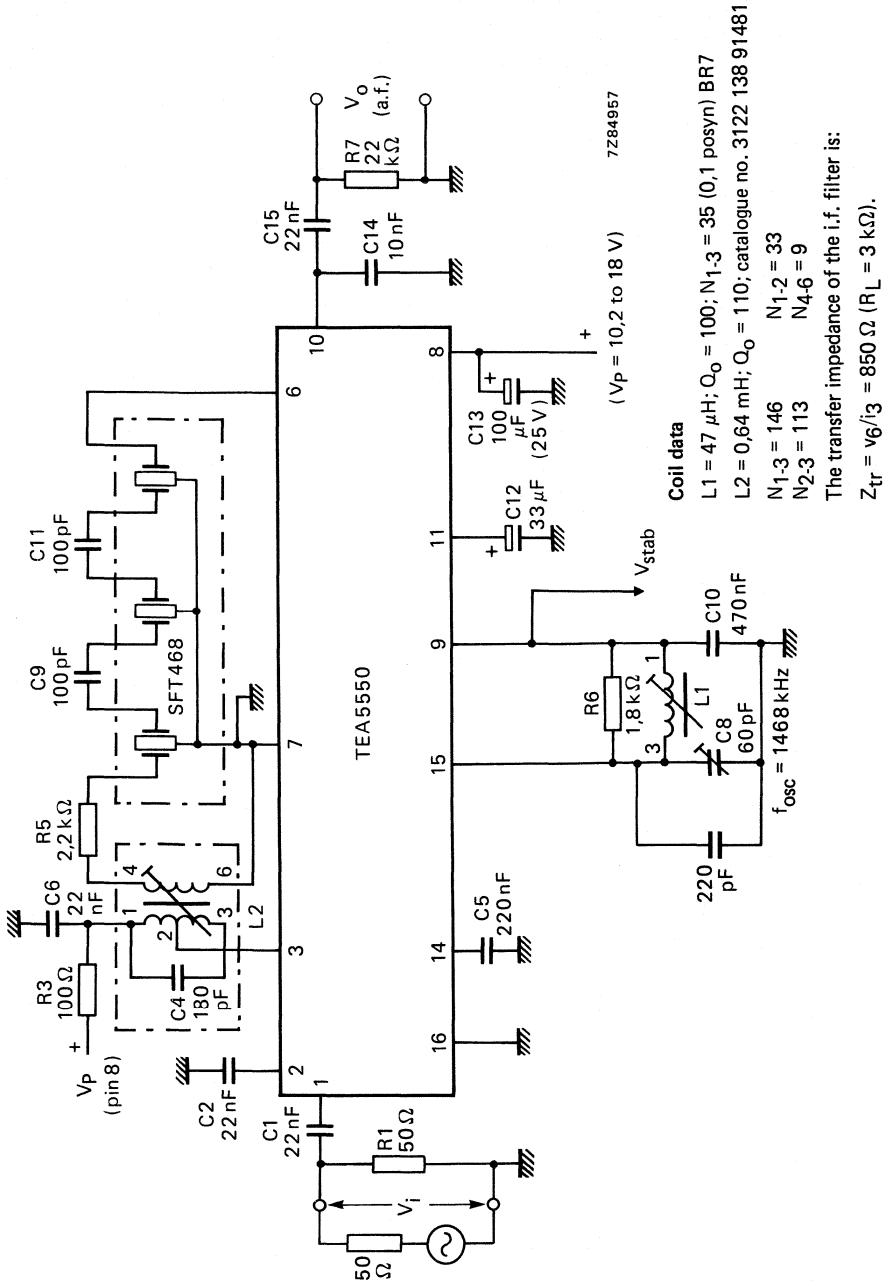

Fig. 2 AM test circuit.
D.C. CHARACTERISTICS at $V_i = 0$ $V_P = 14,4$ V; $T_{amb} = 25$ °C; measured in Fig. 2
$V_P = 14,4 \text{ V}$; $T_{\text{amb}} = 25 \text{ }^\circ\text{C}$; r.f. condition: $f_i = 1 \text{ MHz}$, $m = 0,3$, $f_m = 1 \text{ kHz}$; transfer impedance of the i.f. filter $Z_{\text{tr}} = v_6/i_3 = 850 \text{ } \Omega$ (loaded with $3 \text{ k}\Omega$); measured in Fig. 2; unless otherwise specified